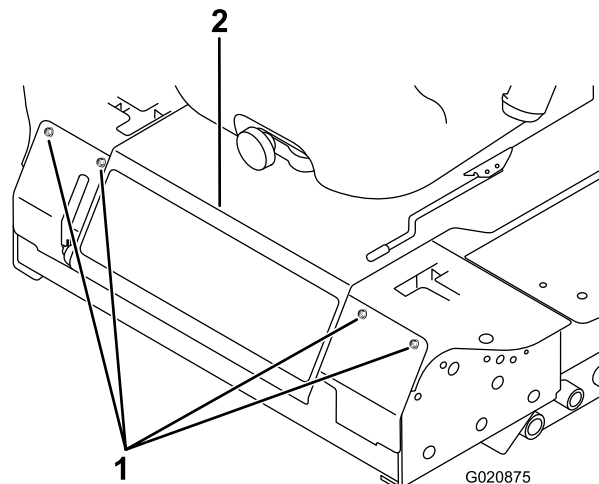

Figure 79
2. Remove the bolts securing the front panel and remove the panel (Figure 79).